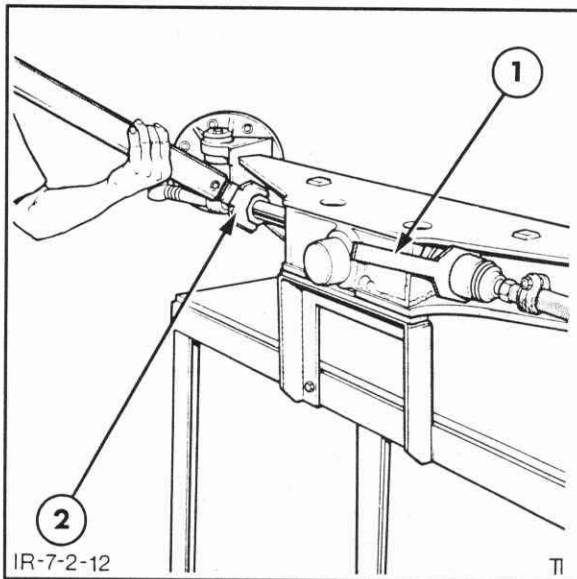

Figure 7-61
3. Position a good quality heavy-duty open-ended spanner with leverage capable of withstanding a torque in excess of 340 ft. lbs. (465 N:m) onto the ball joint at the opposite end of the piston rod. Refer to Figure 7-61. Apply leverage to the spanner to unscrew the ball joint.